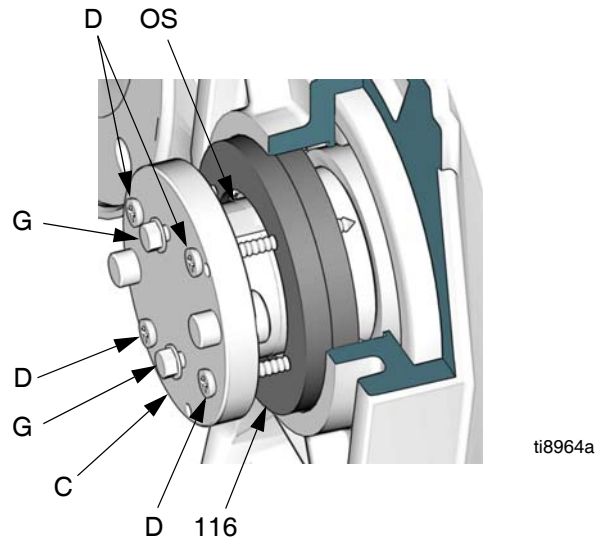

FIG. 27. Remove Output Shaft Seals
8. Ensure that the included gasket is on the oil drain plug (118), then screw the plug into the gear reducer. Tighten to 25 ft-lb (34 N•m).
10. Remove the two output seals (116) as follows:
- a. See FIG. 27. Place the tool (C) onto the output shaft (OS). Turn the tool 90°. Install and tighten the two 0.5 in. (13 mm) screws (G) to lock the tool in place.
- b. Drill 1/8 in. (3 mm) diameter (maximum) pilot holes in the seals (116), using the holes for the sheet metal screws (D) as a template. Install the sheet metal screws (D) through the tool and into the seals (116).
- c. Tighten screws (D) evenly to pull both seals out.